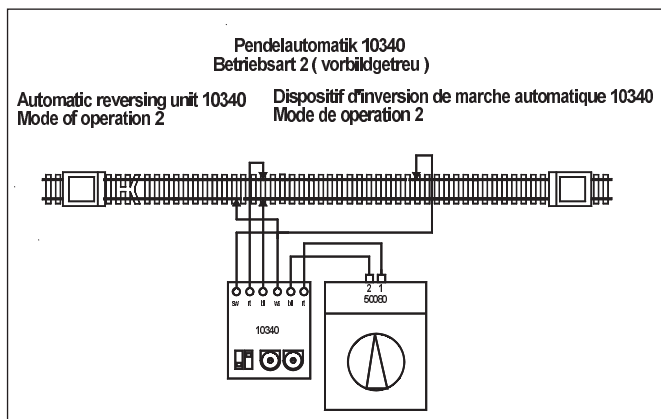

Fig. 3
Preparation (Fig. 3)
2. Connect terminals “sw” (black) and “ws” (white) on the circuit board to the insulated track sections as shown in Fig. 3. Loosen the screws on the insulated track sections and trap the wire between the screw and the rail.